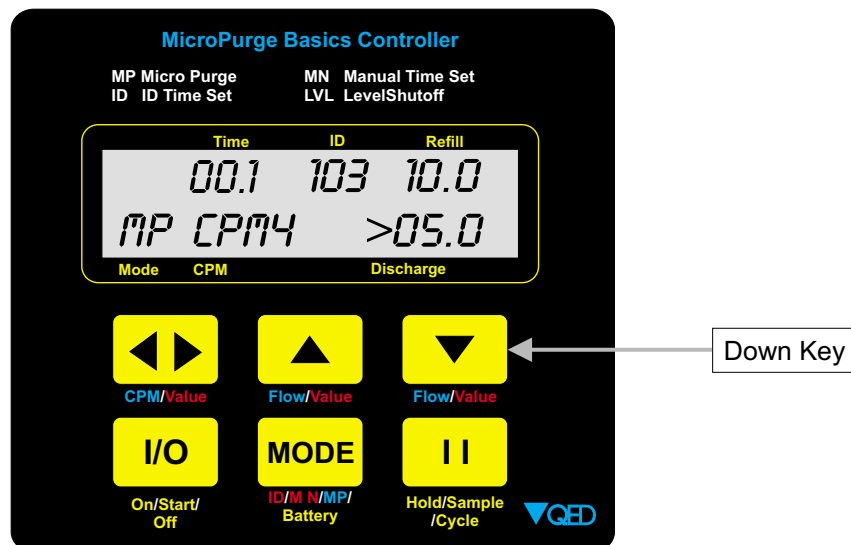

Figure 5
14. If the drawdown level exceeds the selected drawdown limit point too consistently, the flow purge flow rate can be further decreased with adjustment of the controller through one or more presses of the flow "DOWN" arrow key (see Figure 5 below). If the flow rate is already at or near a minimum desired rate, in some cases it may be also possible to lower the probe to a new, lower drawdown control point to increase the well recovery rate. Consult the site Sampling and Analysis Plan and regulatory guidance before adjusting purging protocols.